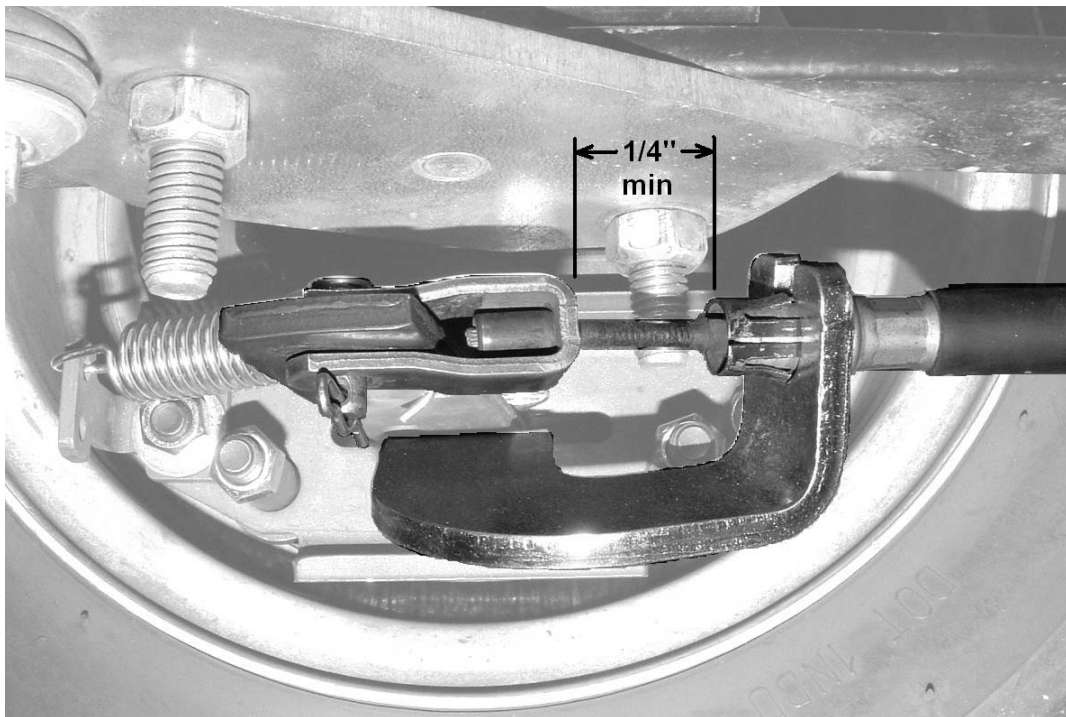

Fig M1 – Determining pad replacement
- c. Check on both calipers that there is at least 1/4" of cable showing between the yoke and housing. (See Fig M1) (If there is a rubber boot over the cable, pull it back.)